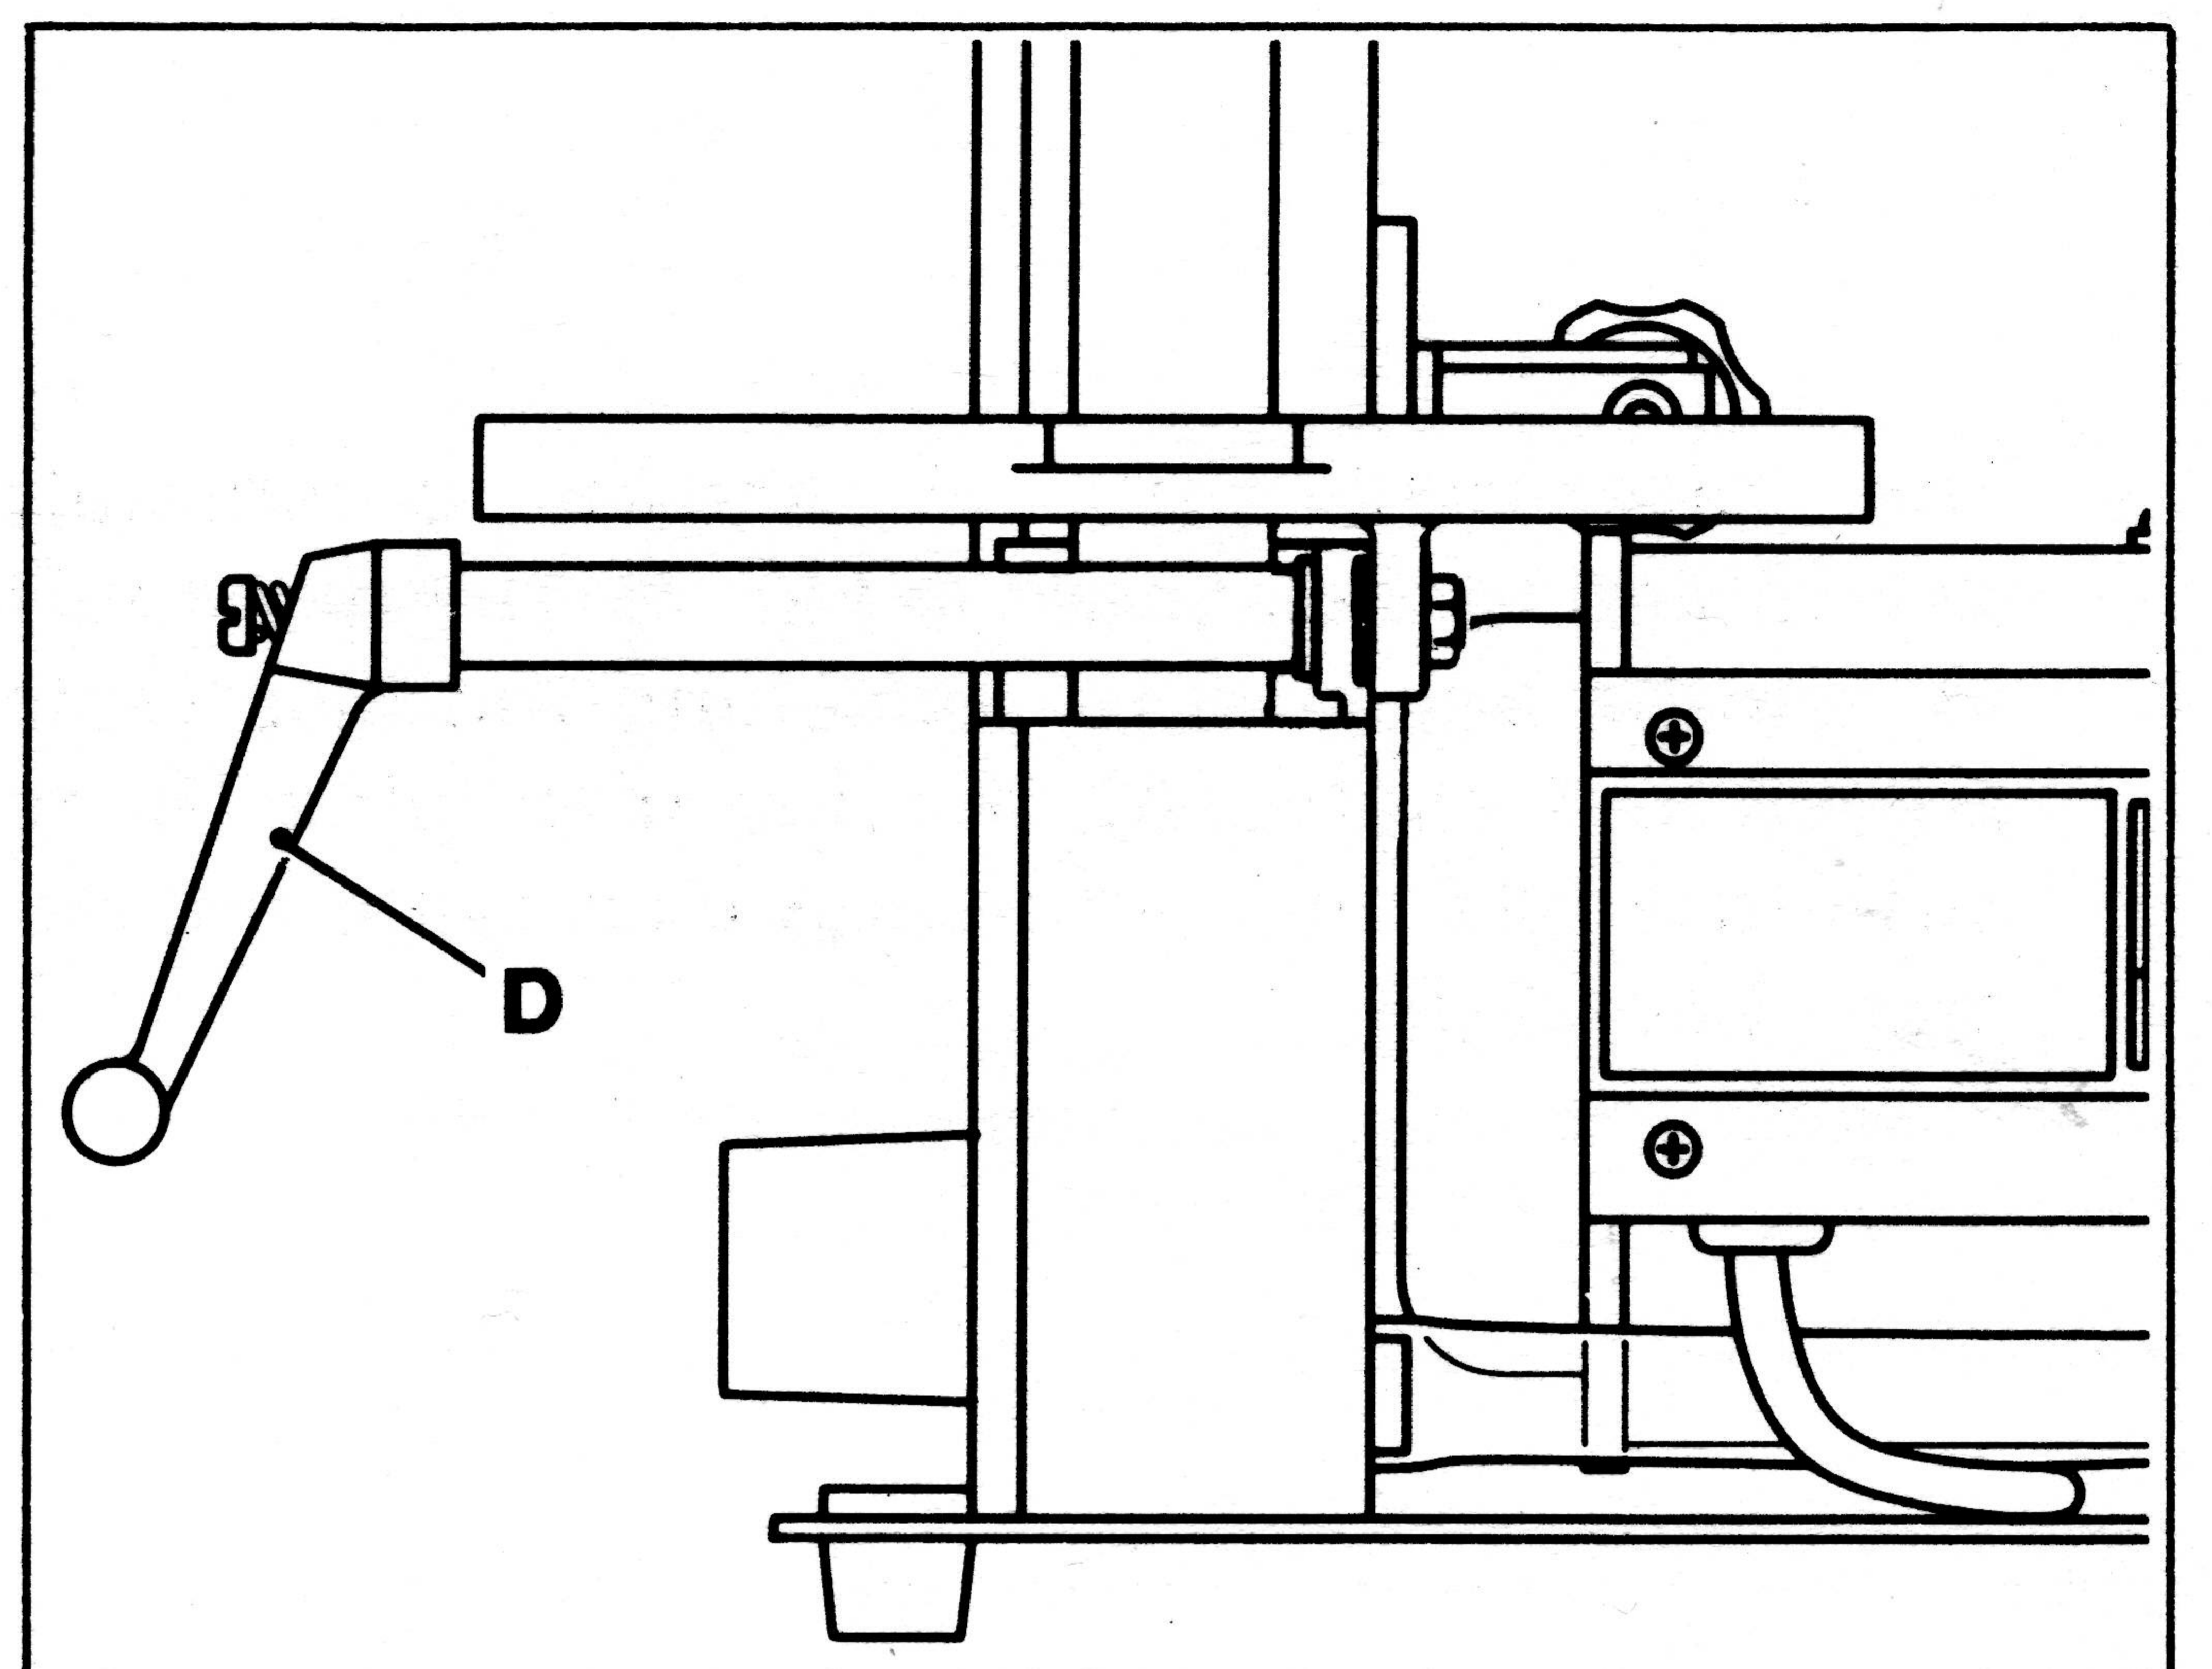

Fig. 4
4. Fasten table to sander frame using table locking handle assembly (D), as shown in Fig. 4. Tighten the table locking handle assembly (D) by hand.